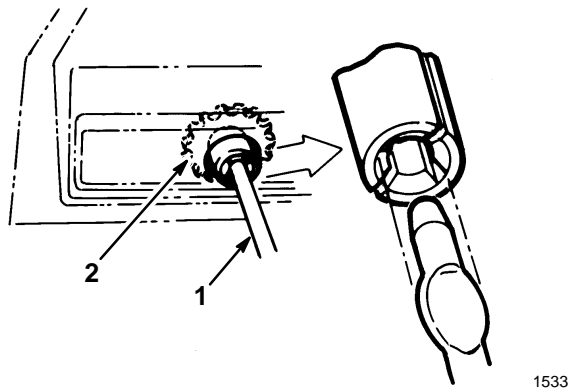

Figure 3
2. Secure deflector to discharge chute with (2) 5/16–18 carriage bolts, metal washers, and locknuts. Make sure the square shoulders on the carriage bolts align with inside square on discharge chute. Position metal washers to the outside of deflector as shown in Figure 3. **DO NOT OVERTIGHTEN BOLTS.**